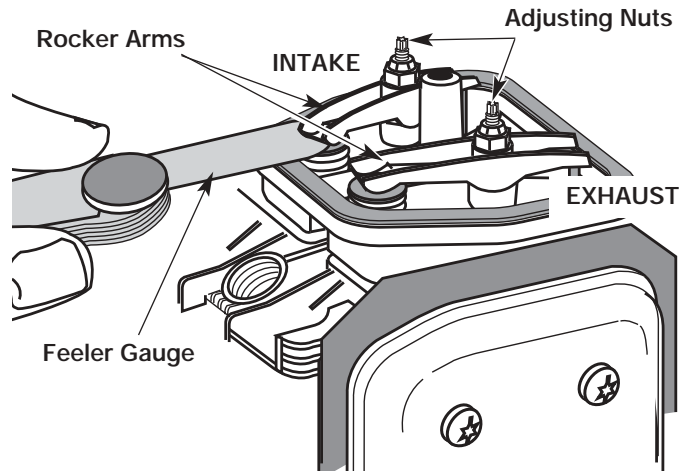

Figure 54
- Slide the feeler gauge between the rocker arm and the valve return spring. Measure the clearance between the valve stem and rocker arm. See Figure 54. Measure both the intake and exhaust valves.
The recommended clearance for both intake and exhaust is .003 – .006 in. (.076 – 0.152 mm). Use a standard automotive .005 in. (0.127 mm) feeler gauge. The feeler gauge should slide between the rocker arm and valve stem with a slight amount of resistance, without binding. See Figure 54.